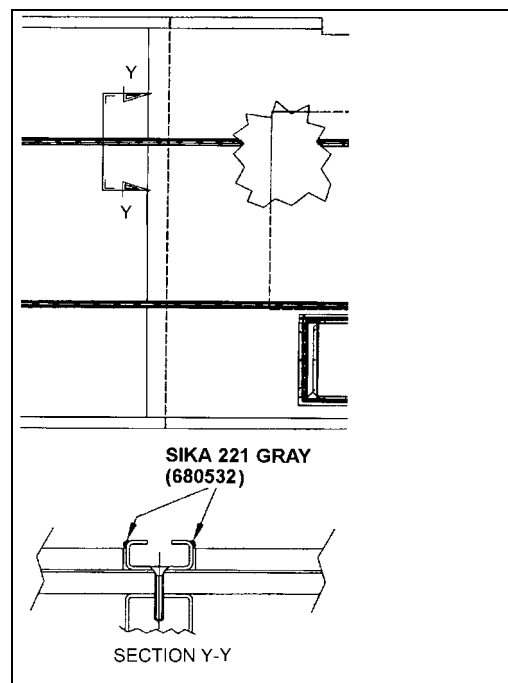

FIGURE 167: APPLICATION OF SIKA 221 GRAY 18641
8. Apply Sikaflex 221 gray sealant (680532) alongside passenger seat fixing tracks (refer to Figure 167).